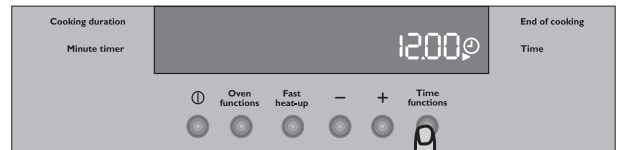
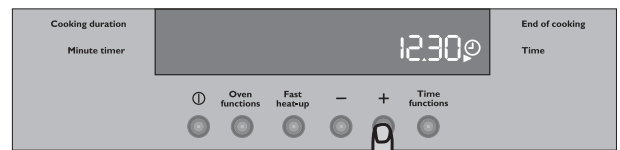

Fig. 1
Fig. 2
a) press Time function button and, while the symbol is flashing (Fig. 1), set the correct time of day by pressing buttons “-” or “+” (Fig. 2).